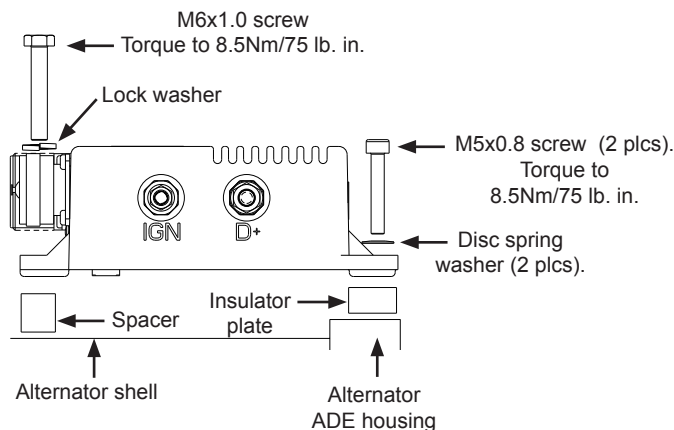

Figure 6: Mounting Regulator
2. Mount regulator on alternator or remotely, using included mounting hardware as shown in Figure 6 below. Torque hardware to 8.5 Nm/75 lb. in.